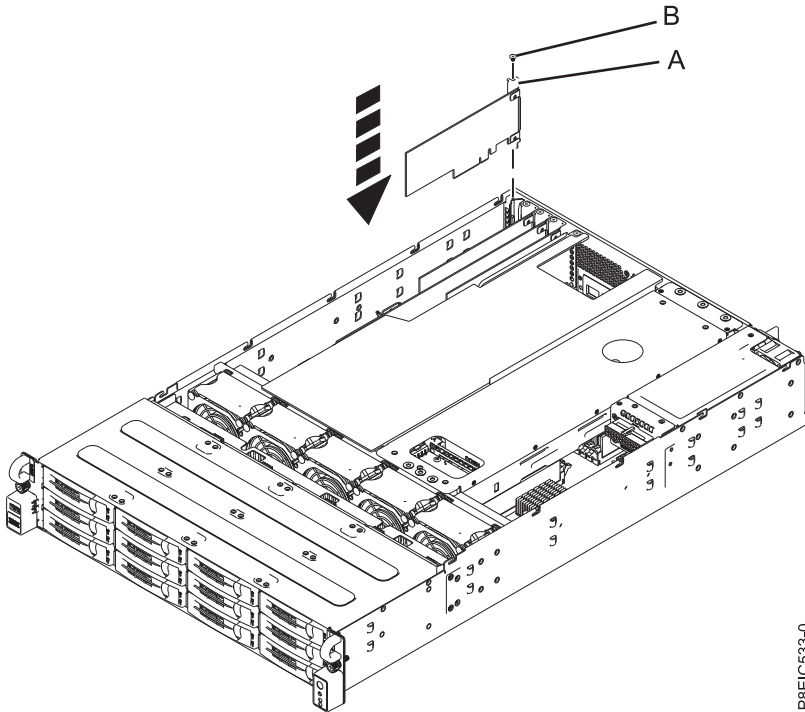

Figure 40. Installing the PCIe Gen3 SAS/SATA RAID adapter (FC EC3S) (A) and screw (B)
- d. Insert the replacement RAID adapter (A) into the PCIe adapter slot of the system backplane, aligning the adapter properly and inserting it fully into the slot.
- e. Insert the retaining screw (B) and tighten it to secure the PCIe adapter in the system, as shown in Figure 40 on page 60.